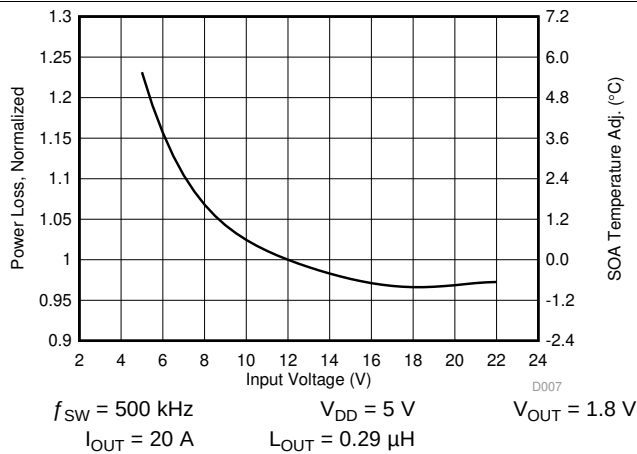

Figure 7. Normalized Power Loss vs Input Voltage
- Normalized power loss for input voltage $\approx$ 1.1 (Figure 7)
- SOA adjustment for input voltage $\approx$ 2.5°C (Figure 7)